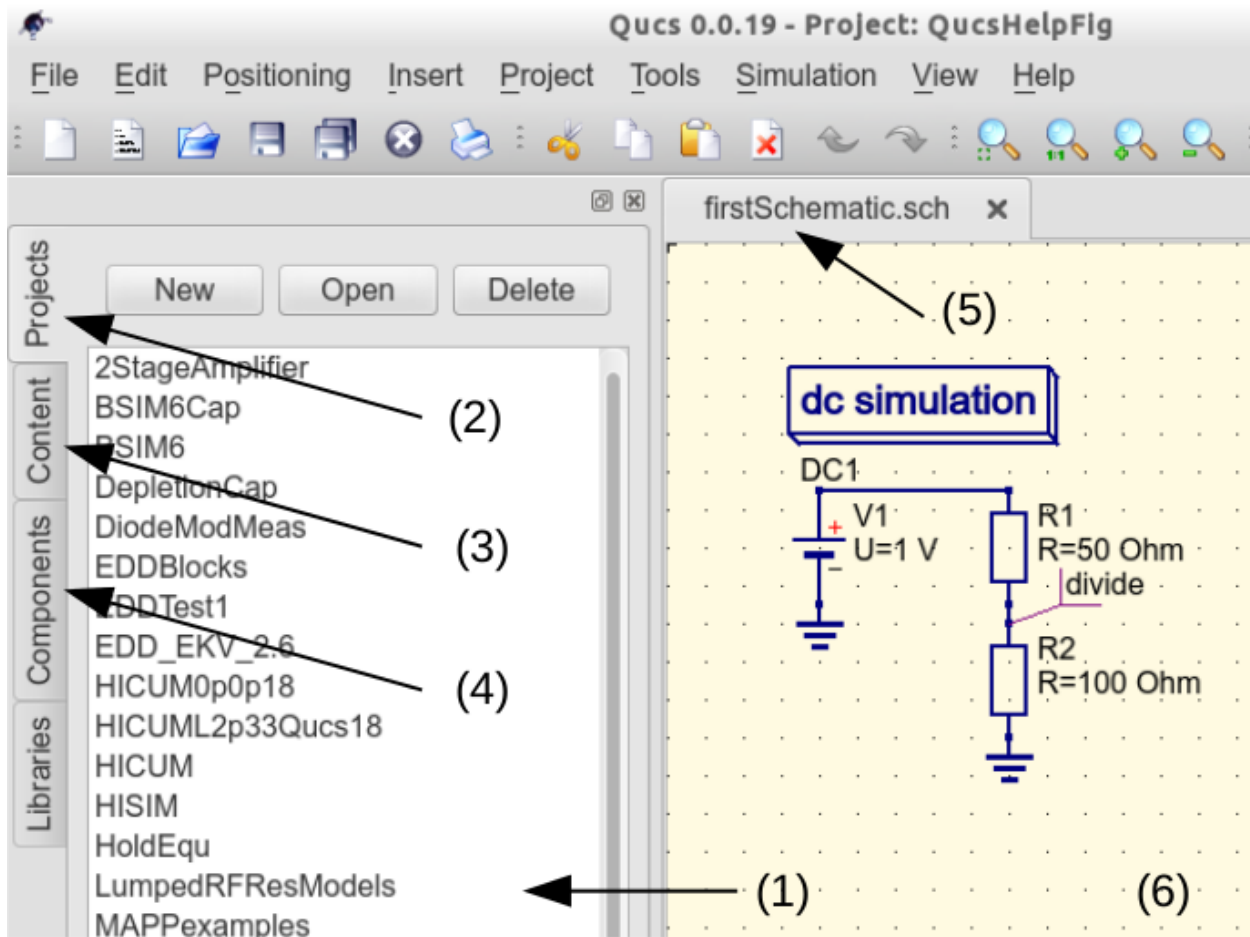

Figure 3 - Qucs main window with working areas labelled
On launching Qucs a working area labelled (6) appears at the centre of the GUI. This window is used for displaying schematics, numerical and algebraic model and circuit design data, numerical output data, and signal waveforms and numerical data visualised as graphs, see Figure 3. Clicking, with the left hand mouse button on any of the entries in the tabular bar labelled (5) allows users to quickly switch between the currently open documents. On the left hand side of the Qucs main window is a third area labelled (1) whose content depends on the status of **Projects** (2), **Content** (3), **Components** (4) or **Libraries**. After running Qucs, the **Projects** tab is activated. However note, when Qucs is launched for the first time the **Projects** list is empty.
To enter a new project left click on the **New** button located on the right above window (1). This action causes a Qucs GUI dialogue to open. Enter the name of a Qucs project in the box provided, for example enter *QucsHelpFig* and click on the **OK** button. Qucs then creates a project directory in the `~/ .qucs` directory. In the example shown in Figure 3 this is called **QucsHelpFig_prj**. Every file belonging to this new project is saved within the **QucsHelpFig_prj** directory. On creation a new project is immediately opened and it's name displayed on the Qucs window title bar. The left tabular bar is then switched to **Content**, and the content of the currently opened project displayed. To save an open document click on the **save** button (or use the main menu: **File** → **Save**). This step initiates a sequence which saves the document displayed in area (6). To complete the save sequence the program will request the name of your new document. Enter *firstSchematic*, or some other suitable name, and click on the **OK** button to complete the save sequence.
As a first example to help you get started with Qucs enter and run the simple DC circuit shown in Figure 3. The circuit illustrated is a two resistor voltage divider network connected to a fixed value DC voltage source. Start by clicking on the **Components** tab. This action causes a combo box to be displayed from which a component group may be chosen and the required components selected. Choose components group **lumped components** and click on the first symbol: **Resistor**. Next move the mouse cursor into area (6). Pressing the right mouse button rotates the **Resistor** symbol. Similarly, pressing the left mouse button places the component onto the schematic at the place the mouse cursor is pointing at. Repeat this process for all components shown in Figure 3. The independent DC voltage source is located in the **sources** group. The ground symbol can be found in the **lumped components** group or selected from the Qucs toolbar. The icon requesting DC simulation is listed in the **simulations** group. To edit the parameters of the second resistor, double-click on it. A dialogue opens which allows the resistor value to be changed; enter *100 Ohm* in the edit field on the right hand side and click enter.
To connect the circuit components shown in Figure 3, click on the wire toolbar button (or use the main menu: **Insert** → **Wire**). Move the cursor onto an open component port (indicated by a small red circle at the end of a blue wire). Clicking on it starts the wire drawing sequence. Now move the drawing cursor to the end point of a wire (normally this is a second red circle attached to a placed component) and click again. Two components are now connected. Repeat the drawing sequence as many times as required to wire up the example circuit. If you want to change the corner direction of a wire, click on the right mouse button before moving to an end point. You can also end a wire without clicking on an open port or on a wire; just double-click the left mouse button.
As a final step before DC simulation label the node, or nodes, whose DC voltage is required, for example the wire connecting resistors **R1** and **R2**. Click on the label toolbar button (or use the menu: **Insert** → **Wire Label**). Now click on the chosen wire. A dialogue opens allowing a node name to be entered. Type *divide* and click the **OK** button. If you have drawn the test schematic correctly the entered schematic should look the same, or be similar to, the one shown in Figure 3.